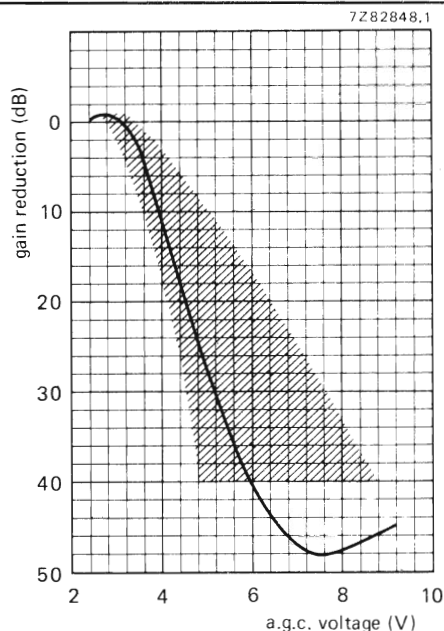

Fig. 5 Low v.h.f. band.
A.G.C. voltage (Figs 5, 6 and 7)